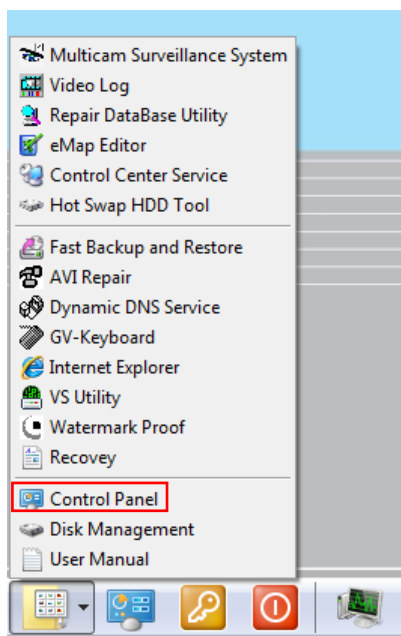

Figure 3-23
1. Follow Steps 1 and 2 in 3.7 *Configuring the IP Address* to access the Control Panel window. See Figure 3-23.